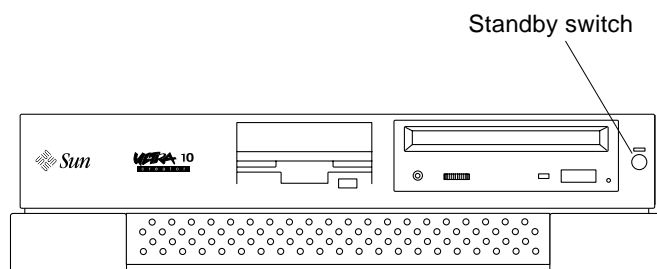
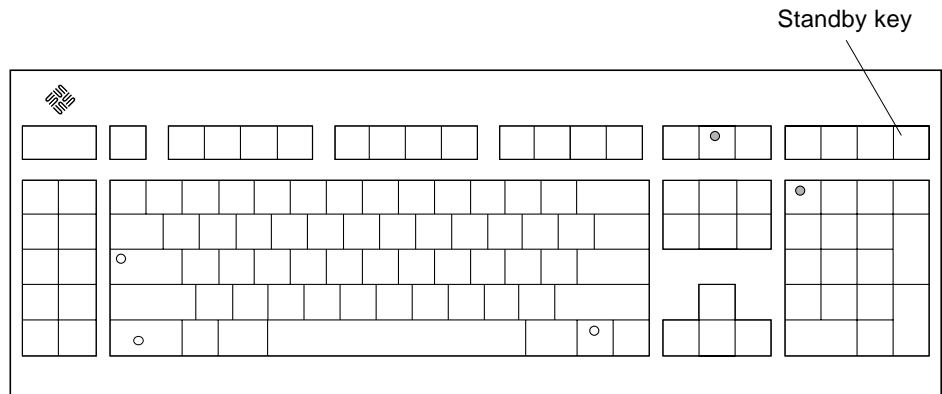

FIGURE 1 System Unit Standby Switch (Ultra 5)
FIGURE 2 Sun Type-5 Keyboard
b. Press the system unit standby switch (FIGURE 1) or press the Sun Type-5 keyboard standby key (FIGURE 2).
- e. Press the standby switch (FIGURE 1) or press the Sun Type-5 keyboard standby key (FIGURE 2).**